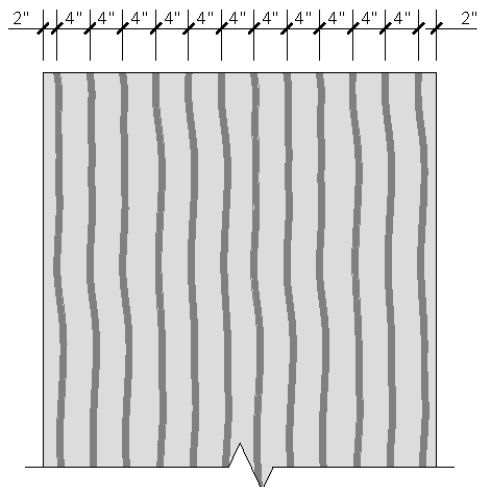

Figure 5.1.1b Four Feet Wide Board, Ribbon Adhered, 6in O.C. Adhesion Pattern
- Dispense insulation adhesive in uniform ribbons 1/2 in to 3/4 in wide. See Figure 5.1.1a and Figure 5.1.1b. Ribbons should flow and expand 2-1/2 to 3 in wide when boards are applied and held in place while the adhesive cures.
- Dispense insulation adhesive in uniform ribbons, 2-1/2 to 3-1/2 in wide. Apply boards and hold in place while the adhesive cures. See Figure 5.1.1a and Figure 5.1.1b.
- Dispense insulation adhesive in uniform ribbons, 3/4 in to 1 in wide. Ribbons should flow and expand 2-1/2 to 3 in wide when boards are applied and held in place while the adhesive cures. See Figure 5.1.1a and Figure 5.1.1b.